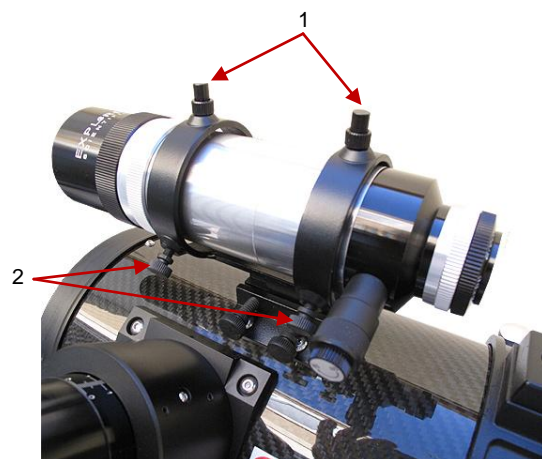

Fig. 4, Finder Scope Adjustment Screws
4. Look through the finder scope eyepiece and loosen or tighten, as appropriate, one or more of the finder scope collimation screws (**2, Fig. 4**) until the finder scope crosshairs are precisely centered on the object you previously centered in the telescope eyepiece.
**NOTE: The two screws on the top of the finder scope (1, Fig. 4) are not adjustment screws. They are spring loaded used to hold the finder scope.**